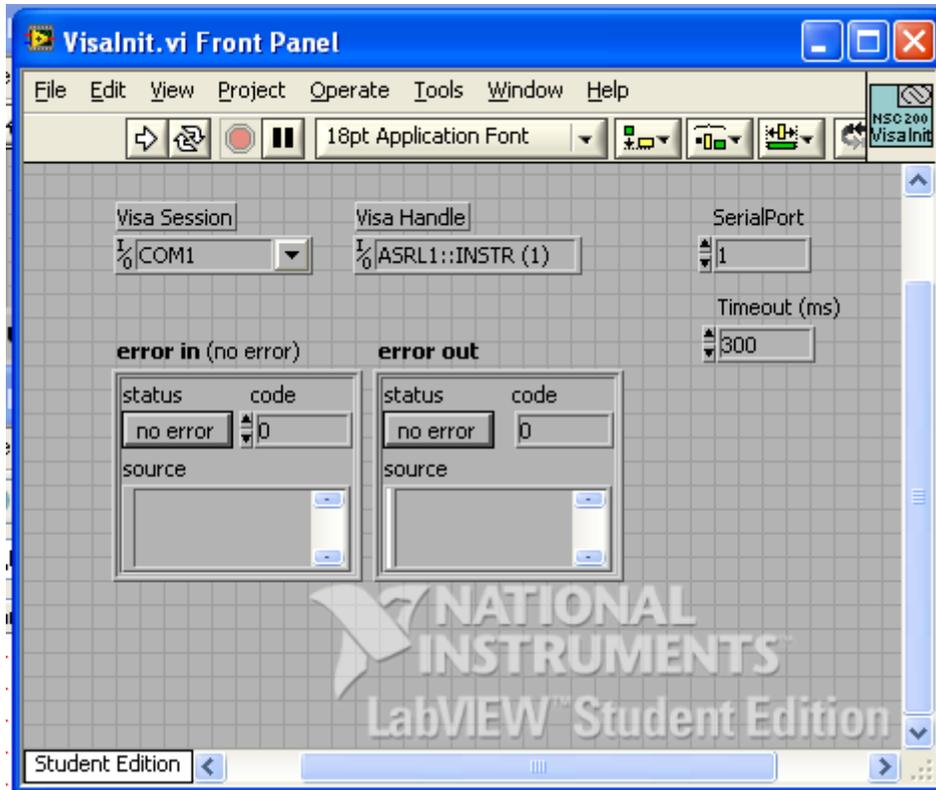

Figure 2.1: Screen shot of the “Visainit.vi” program that needs to be run to initiate serial communication with motor controller
3. Specify the COM port number in the Visa Session and correspond serial port number to which the motor controller is connected to in the computer, and run the program (**Fig. 2.1**).